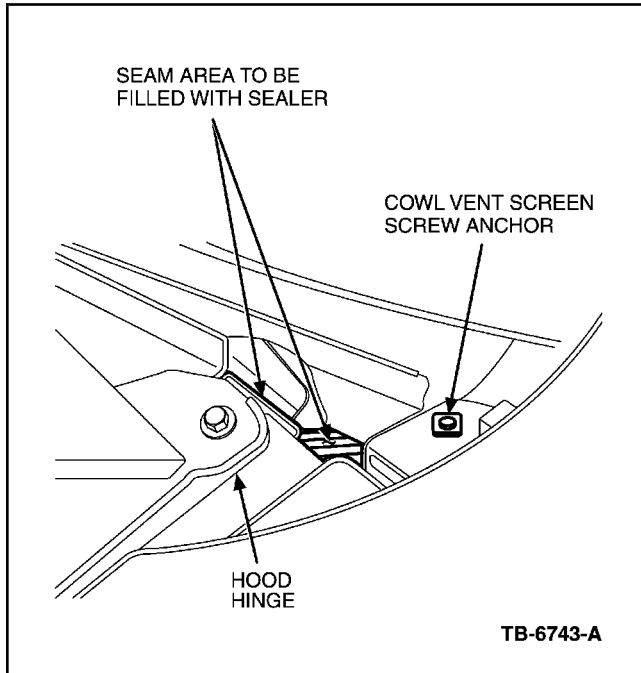

Figure 1 - Article 02-17-4
2. Remove six (6) Phillips head screws from driver's side Cowl Top Vent screen. Refer to the 2002 E-Series Workshop Manual, Section 501-2 for screw torque values.
6. Apply sealant by placing the tube extension adapter as far down into cowl-to-dash panel seam opening as possible, and pump sealant in along the cowl-to-dash seam until this entire area has been filled (Figure 1). Once water descending from above this seam is diverted, the leak will cease.
8. Reinstall Cowl Top Vent Screen on the driver's side. Secure with six (6) screws previously removed. Refer to the 2002 Workshop Manual, Section 501-02 for screw torque values. Reinstall cowl gasket seal along front edge of Cowl Top Vent Screen where it meets the front edge of the cowl sheet metal.